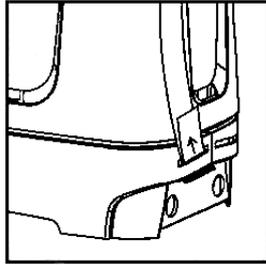

fig.6
- 4.1.7. Pull strap to adjust length of shoulder strap and to lock in place (fig.6).